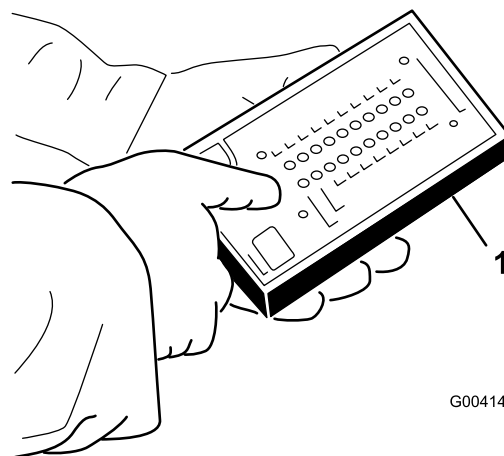

Figure 50
5. Connect the Diagnostic ACE display connector to the harness connector (Figure 50).